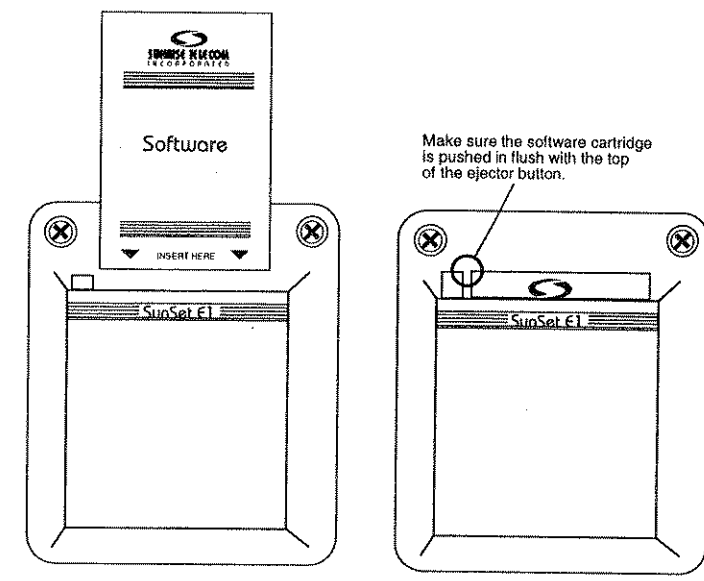

Figure 4A Software Cartridge Installation
- 6) Ensure the software cartridge is fully seated in its slot (refer to Figure 4A, Software Cartridge Installation).